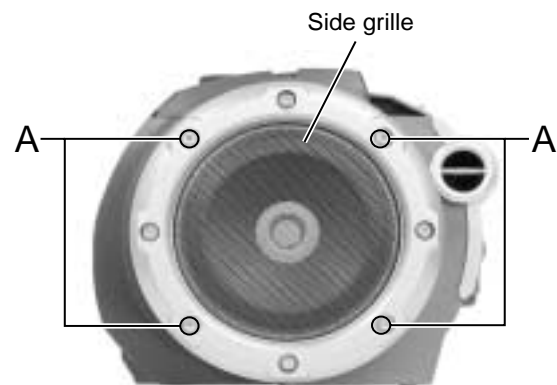

Fig.1
■ **Removing the side grilles** (See Fig.1)